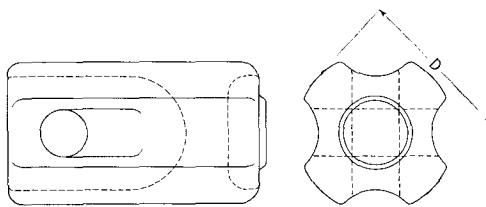

Fig. 1—Insulator—Single Fin Type
2.01 Table A lists the sizes of current standard commercial insulators and the conditions under which each may be used. These are so called "single-fin" type insulators. Their general appearance is shown in Fig. 1. Insulators are **not** marked to identify either their mechanical or electrical ratings. However, ratings can be readily determined by measuring the length and diameter of insulators and comparing the measurements with Table A.